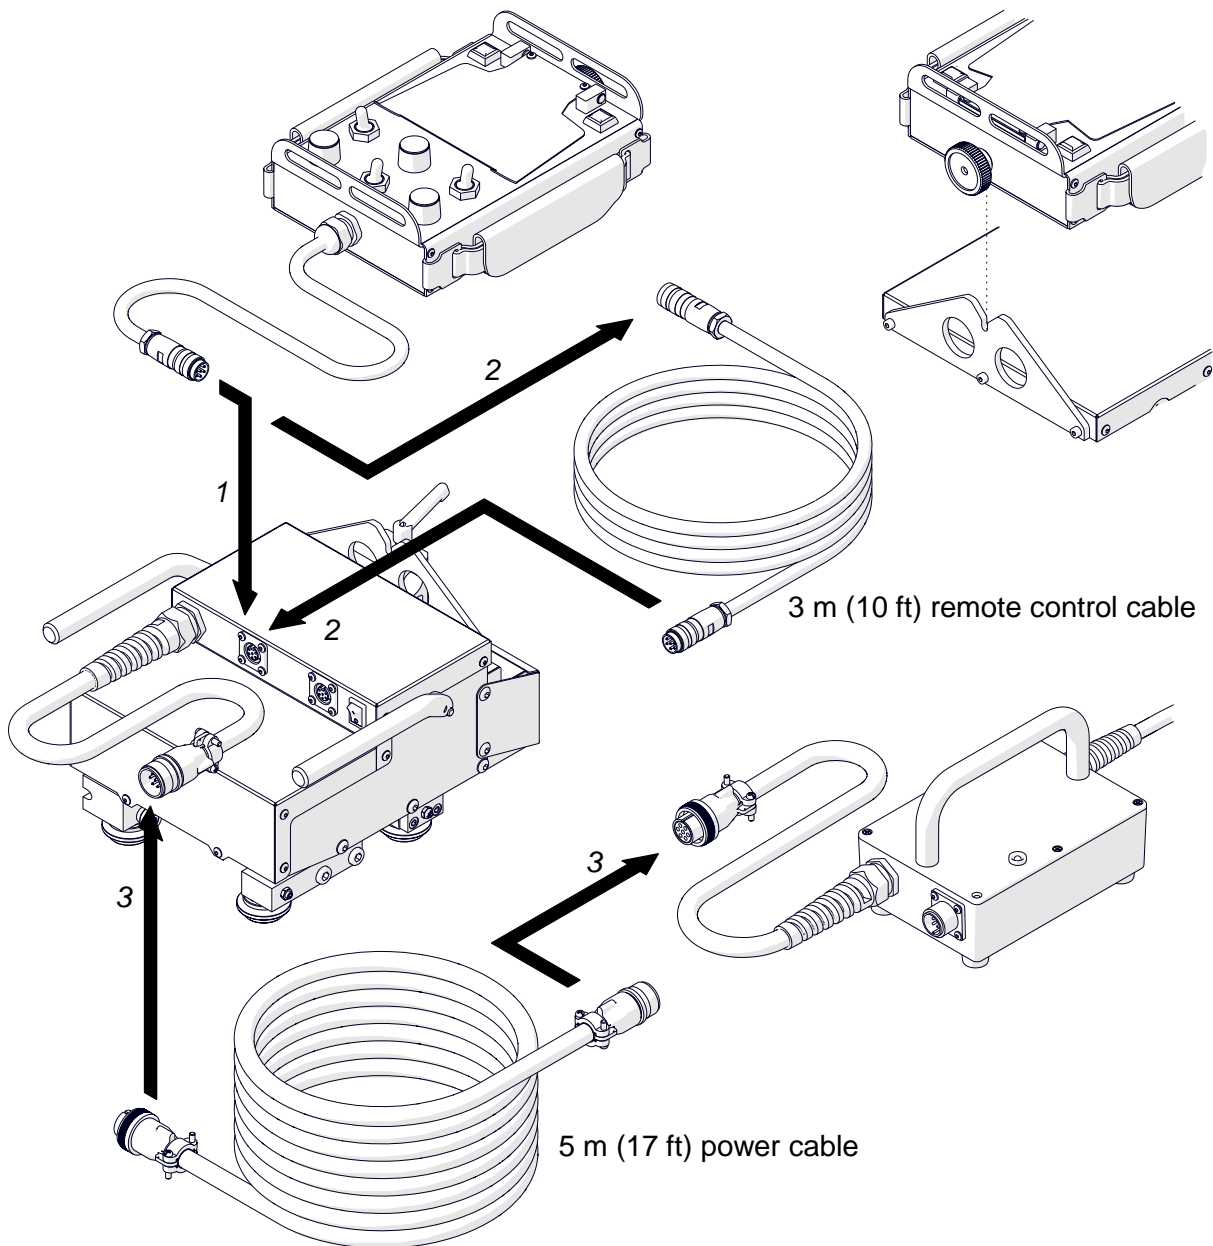

Fig. 9. Connecting the carriage
Connect the remote control to the carriage directly (1, Fig. 9), if the remote control will be put onto the carriage, or use the remote control cable (2). Then, use the power cable to connect the carriage to the power supply (3). Next, connect the power supply to the power source and put the torch and torch cables into the holders.